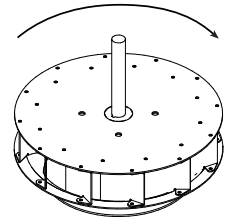

Figure 14
3. Check wheel rotation (viewing from the shaft side) by momentarily energizing the unit. Rotation should be clockwise as shown in Figure 14 and correspond to the rotation decal on the unit. If wheel rotation is incorrect, reverse two of the wiring leads or check motor wiring for single phase. Fan RPM should be checked and verified with a tachometer.
- Start the fan and shut it off immediately to check rotation of the wheel with directional arrow in the motor compartment, reference Figure 14.